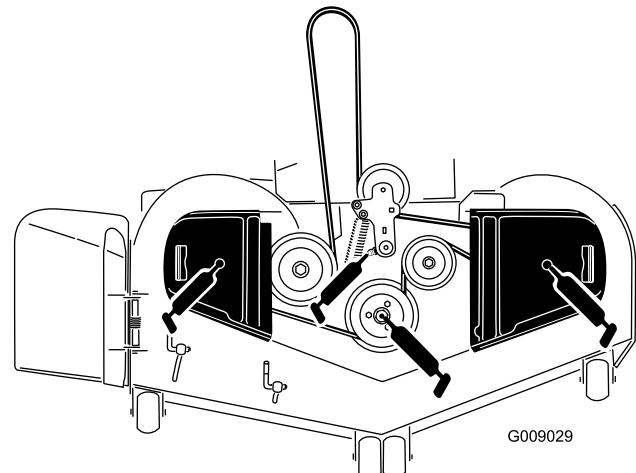

Figure 39
3. Grease the mower deck idler pulley pivot until grease comes out the bottom (Figure 39).
4. Grease the three spindle bearings until grease comes out the lower seals (Figure 39).